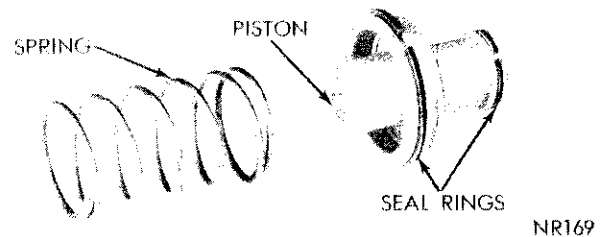

Fig. 76—Accumulator Piston and Spring
(1) Clean mating surfaces and inspect for burrs on both the transmission case and valve body steel plate.
(2) Install accumulator piston in transmission case and place piston spring on the accumulator piston (Fig. 76). Make sure Back-Up Light and Neutral Start Switch has been removed.
(3) Insert parking lock rod through opening in rear of case with knob positioned against the reaction plug and sprag. Move front end of rod toward center of transmission while exerting rearward pressure on rod to force it past the sprag (rotate output shaft if necessary).
(4) Place valve body manual lever in **LOW** position. Place valve body in its approximate position in the case, connect parking lock rod to the manual lever and secure with the E-clip. Align valve body in the case, install retaining bolts finger tight.
(5) With neutral starting switch installed, place manual valve in the neutral position. Shift valve body if necessary to center the neutral finger over the neutral switch plunger. Snug bolts down evenly, then tighten to 100 inch-pounds.